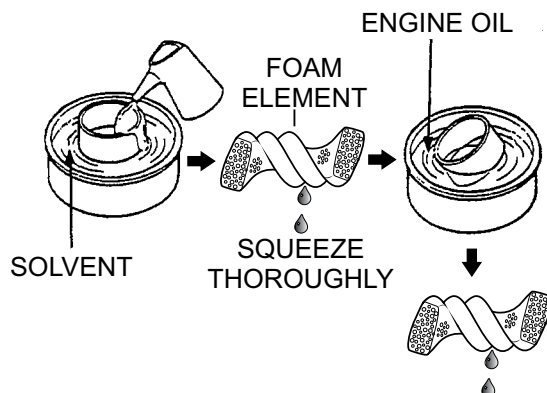

Figure 40. Cleaning Foam Element
3. Clean foam element (Figure 40) in warm, soapy water or non-flammable solvent. Rinse and dry thoroughly.